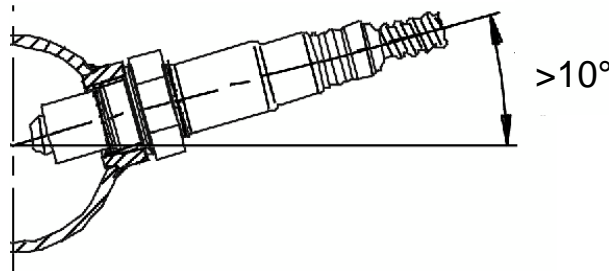

Figure 2. Minimum mounting angle for the UEGO Sensor
4. Mount the UEGO sensor as shown in figure 2.
A weld-in UEGO bung is supplied for sensor installation. Mount the UEGO sensor in the exhaust system at least 18 inches downstream from the exhaust port. If you anticipate high EGT's (over 800C), run a turbocharger, run at high RPM for extended periods of time or plan on running leaded race fuel then you must mount the sensor at least 36 inches or more downstream of the exhaust port as all of these can cause the sensor to overheat. **On turbocharged engines the UEGO sensor must be installed after the turbo charger, if not, the pressure differential will greatly affect the accuracy of the unit.** For accurate readings, the sensor must be mounted before catalytic converters and/or auxiliary air pumps. To prevent collection of liquids between the sensor housing and sensor element during the cold start phase, the installation angle should be inclined at least 10° from horizontal with the electrical connection upwards, see Figure 2.